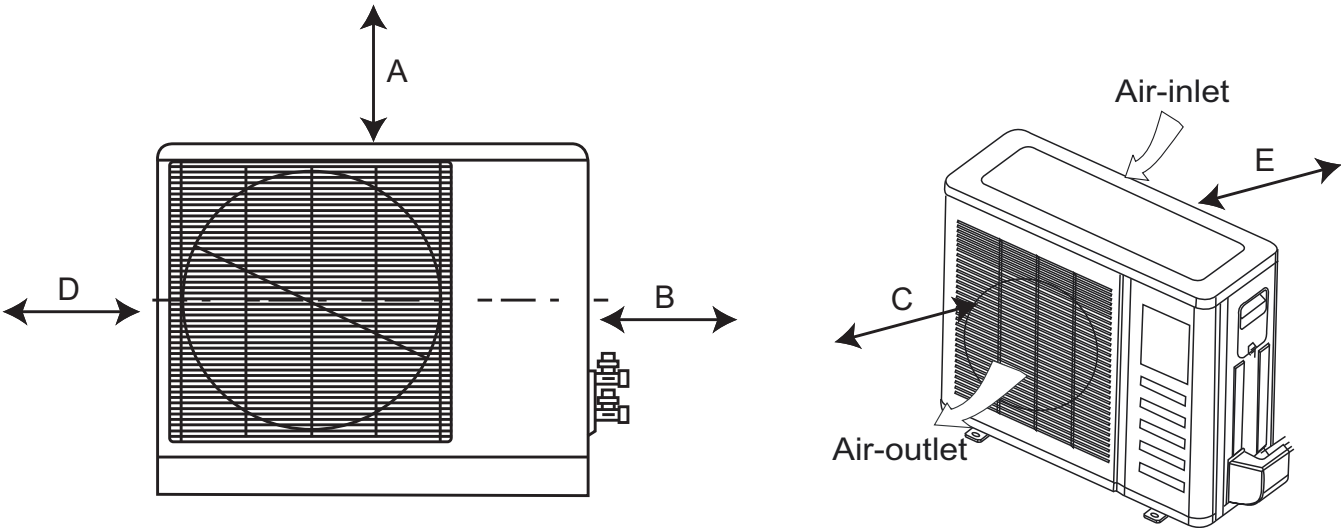

Fig. 6 – Clearances Outdoor
- A location with appropriate clearances as outlined in Fig. 6.